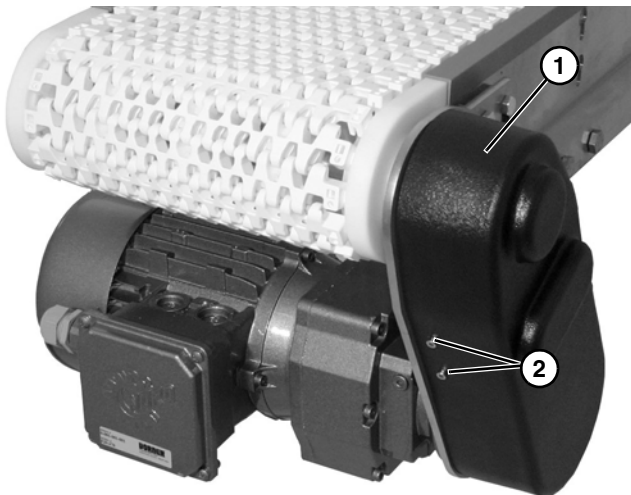

Figure 10
10. Install cover (**Figure 10, item 1**) with four (4) screws (**Figure 10, item 2**). Tighten screws to 35 in-lb (4 Nm).